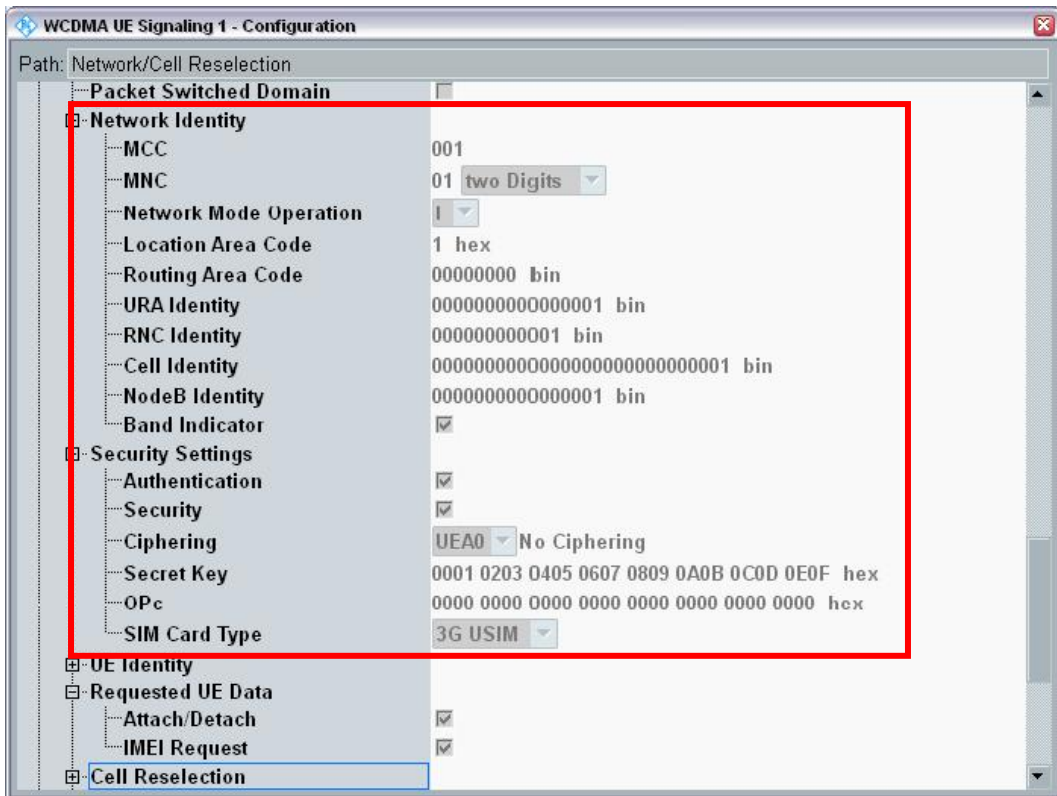

Figure 38: WCDMA Network Identity and Security Settings
8. Set the security settings according to the device under test (Figure 38: WCDMA Network Identity and Security Settings).